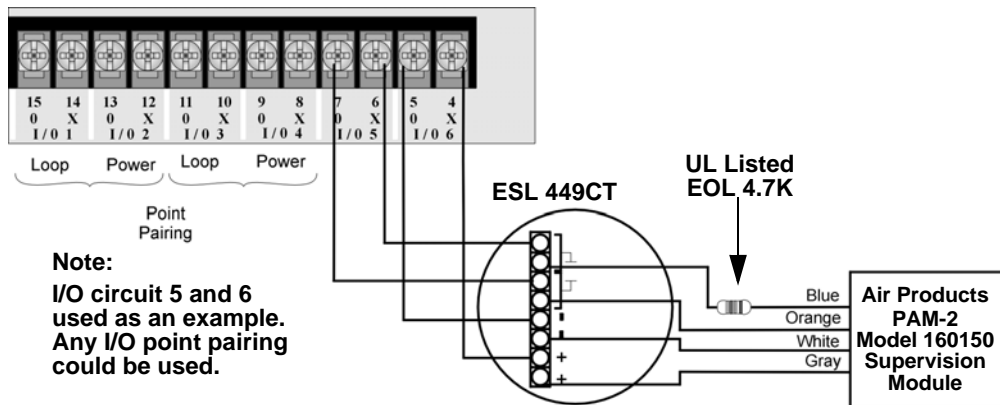
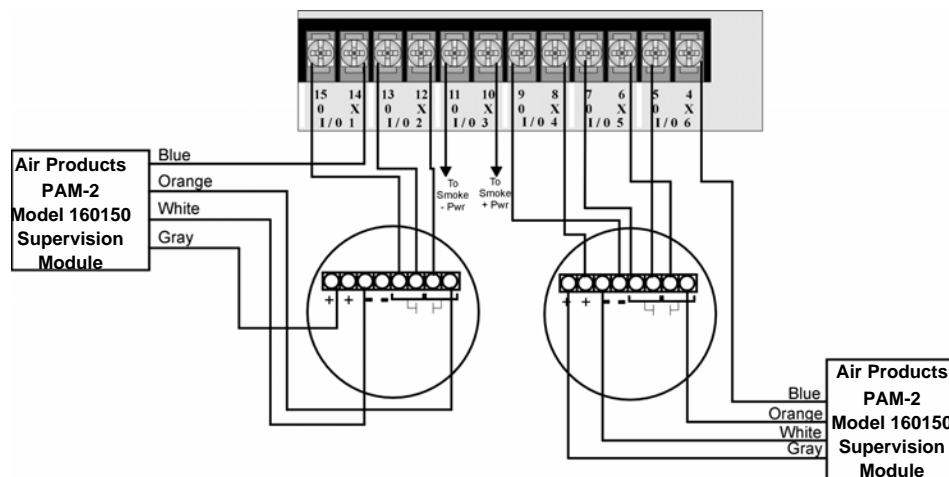

Figure 3.18 Class B 4-Wire Smoke Detector Connections
Figure 3.19 Class A 4-Wire Smoke Detector Connections
Any compatible U.L. listed four-wire smoke detector can be used with the 5895XL panel (see Appendix A for list of compatible smoke detectors). Figure 3.18 and Figure 3.19 illustrate how to connect a UL listed four-wire detector to the control panel.
2. Each Class B loop input is paired with a unique power source as shown in Figure 3.18.
NOTE: In programming any point that uses multiple I/O circuits are always referred to as the lowest I/O circuit number used. For example, Figure 3.18 uses both I/O circuit 5 and 6, so in programming it would be referred to as point 5.
Figure 3.19 illustrates how to install 4-wire Class A detectors.
2. Smoke power is supplied to each Class A loop as shown in Figure 3.19.
NOTE: In programming any point that uses multiple I/O circuits are always referred to as the lowest I/O circuit number used. For example, Figure 3.19 uses I/O circuits 1, 2, 3 together and 4, 5, 6 together. In programming (1, 2, 3) would be referred to as point 1, and (4, 5, 6) would be referred to as point 4.